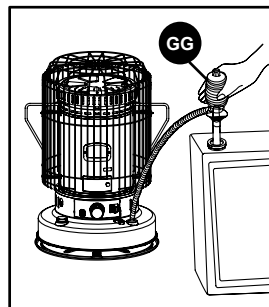

Fig.10
Before fueling the heater, take the heater, the kerosene, and the manual siphon pump (GG) outdoors. To use the manual siphon pump, tighten the cap on the top of the siphon, place the straight tube into the kerosene container, and insert the flexible tube into the opening of the fuel tank. By squeezing the bulb of the siphon pump, fuel will be transferred from the kerosene container into the heater tank (Fig. 10). Carefully watch the fuel gauge on the base of the heater so that you will know when the tank is getting full. When you approach the full mark, loosen the cap on top of the siphon pump. This will stop the flow of kerosene. **DO NOT OVERFILL YOUR HEATER.** Allow the siphon pump to drain thoroughly before you remove it from the tank and the kerosene container.